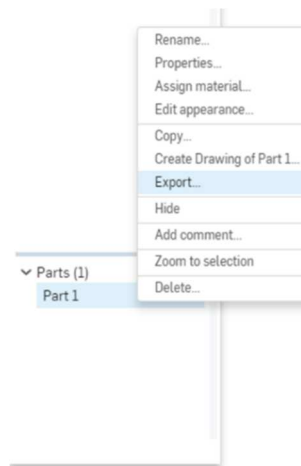

Figure 2.23: Select part(s) for exporting.
20) The main body is now complete and should look similar to the figure 2.23 below.